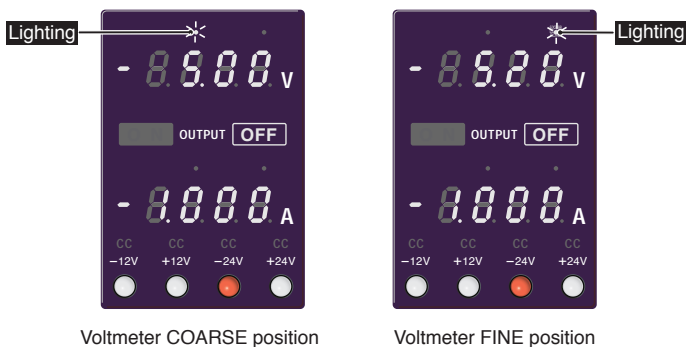

Fig. 3-4 Voltmeter COARSE/FINE position
6. As the dial is turned, the figure below the COARSE position changes. Set the figure to “5.” (Fig. 3-4)